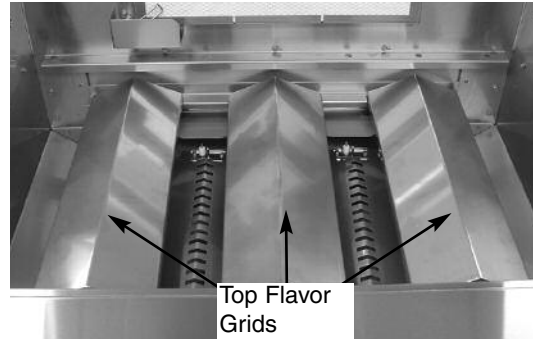

Fig 1
1. Remove cooking grates and top flavor grids (See Fig. 1)
28. Reinstall the bottom and top flavor grids. (See Fig. 1 & 2, on page 1)